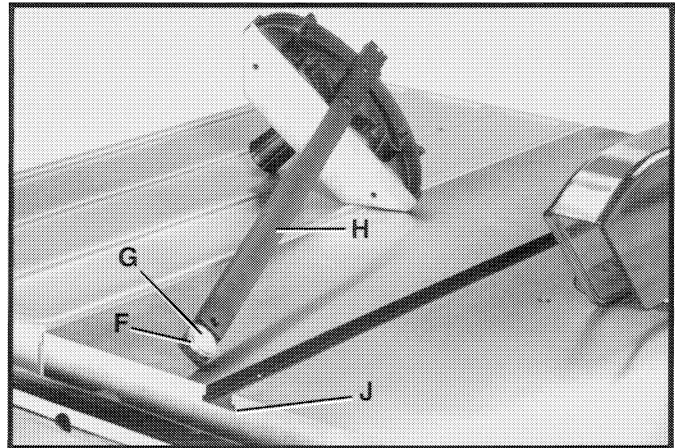
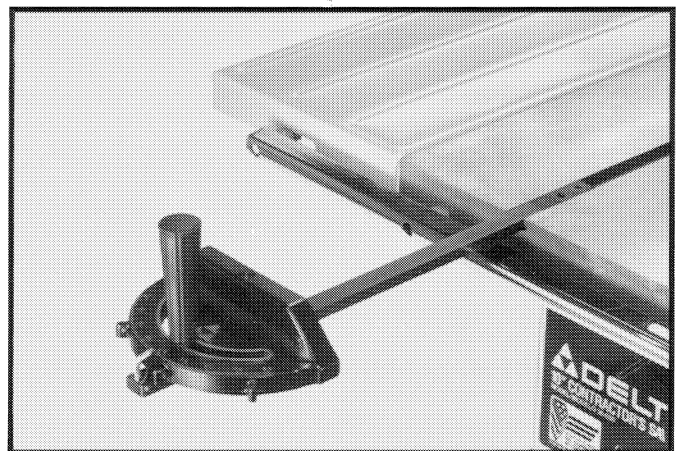

Fig. 53
Fig. 54
2. The miter gage is equipped with a special washer (F) Fig. 53, and a flat head screw (G) which are assembled to the bottom end of miter gage bar (H). The special washer (F) rides in the T-slotted miter gage slot (J) of the saw table, and prevents the miter gage from falling when it is extended out beyond the front of the saw table, as shown in Fig. 54.